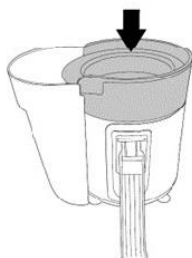

Fig.2
4. Fit the bowl onto the top of the motor housing. Ensure the lip of the bowl hooks over the pulp collection container (Fig. 2).